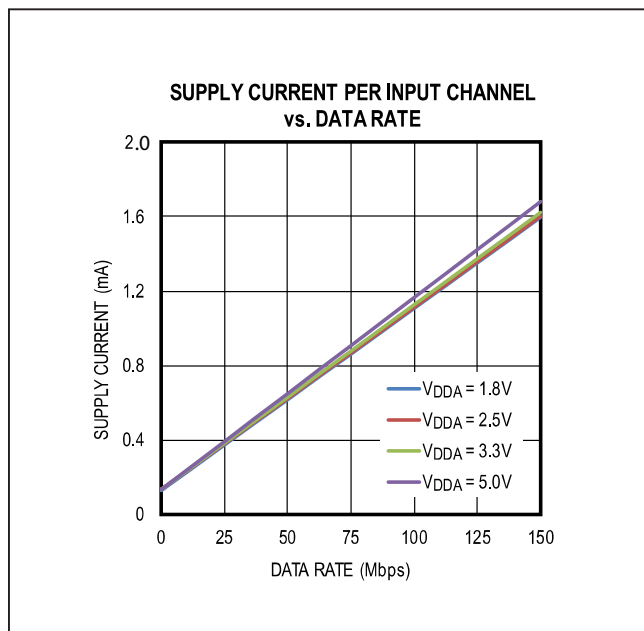
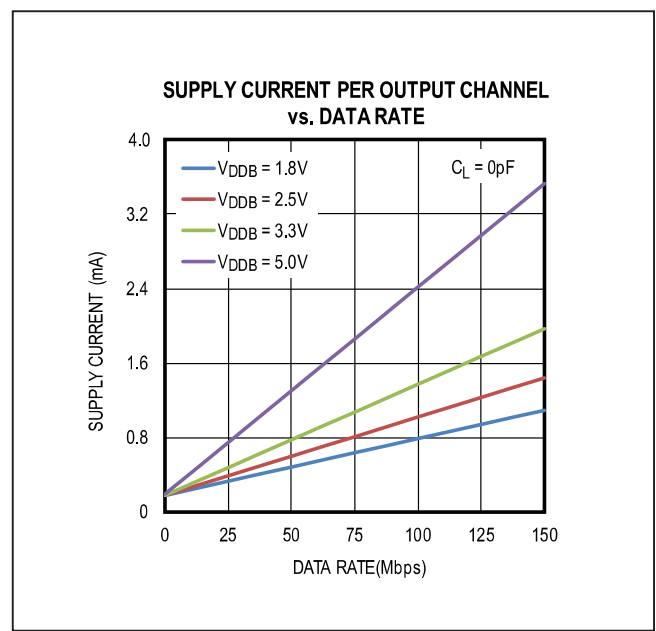

Figure 6. Supply Current Per Input Channel (Estimated)
Figure 7. Supply Current Per Output Channel (Estimated)
The required current for a given supply (V_{DDA} or V_{ddb}) can be estimated by summing the current required for each channel. The supply current for a channel depends on whether the channel is an input or an output, the channel’s data rate, and the capacitive or resistive load if it is an output. The typical current for an input or output at any data rate can be estimated from the graphs in Figure 6 and Figure 7. Please note the data in Figure 6 and Figure 7 are extrapolated from the supply current measurements in a typical operating condition.
The total current for a single channel is the sum of the “no load” current (shown in Figure 6 and Figure 7) which is a function of Voltage and Data Rate, and the “load current,” which depends on the type of load. Current into a capacitive load is a function of the load capacitance, the switching frequency, and the supply voltage.
- Channel 1 is an input channel operating at 2.5V and 20Mbps, consuming 0.33mA, estimated from Figure 6.
- Channel 2 and 3 are input channels operating at 2.5V with DC signal, consuming 0.13mA, estimated from Figure 6.
- Channel 4 is an output channel operating at 2.5V and 100Mbps, consuming 1.02mA, estimated from Figure 7.
- Channel 1 is an output channel operating at 3.3V and 20Mbps, consuming 0.42mA, estimated from Figure 7.
- Channel 2 and 3 are output channels operating at 3.3V with DC signal, consuming 0.18mA, estimated from Figure 7.
- Channel 4 is an input channel operating at 3.3V and 100Mbps, consuming 1.13mA, estimated from Figure 6.